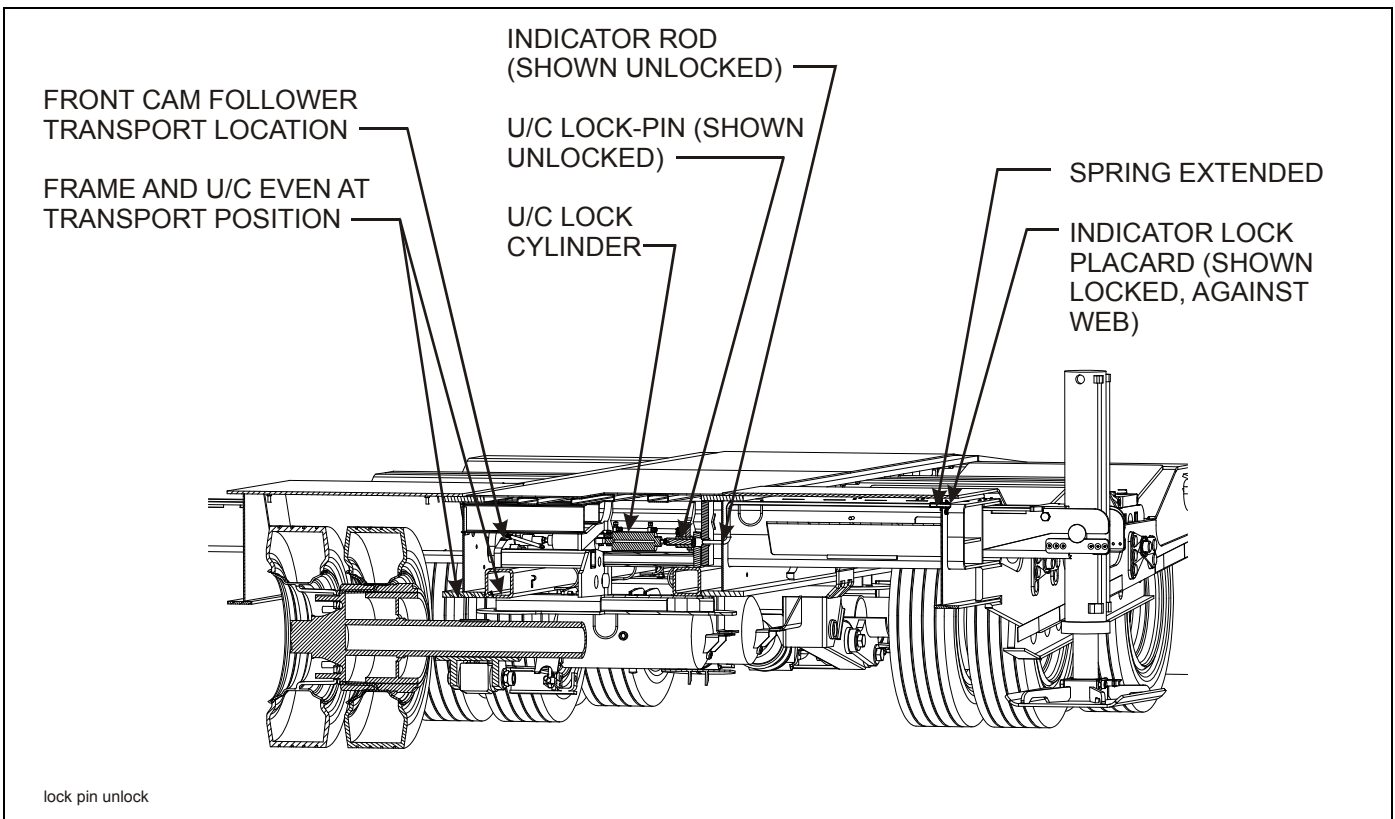

Figure 3-13: U/C Lock Pin in Unlocked Position
2. When unlocking pins, the undercarriage lock cylinders will retract the lock-pins and the indicator placards retract against the outer beam web. As the unlock is activated, the suspension air bags simultaneously deflate (See Figure 3-13.)